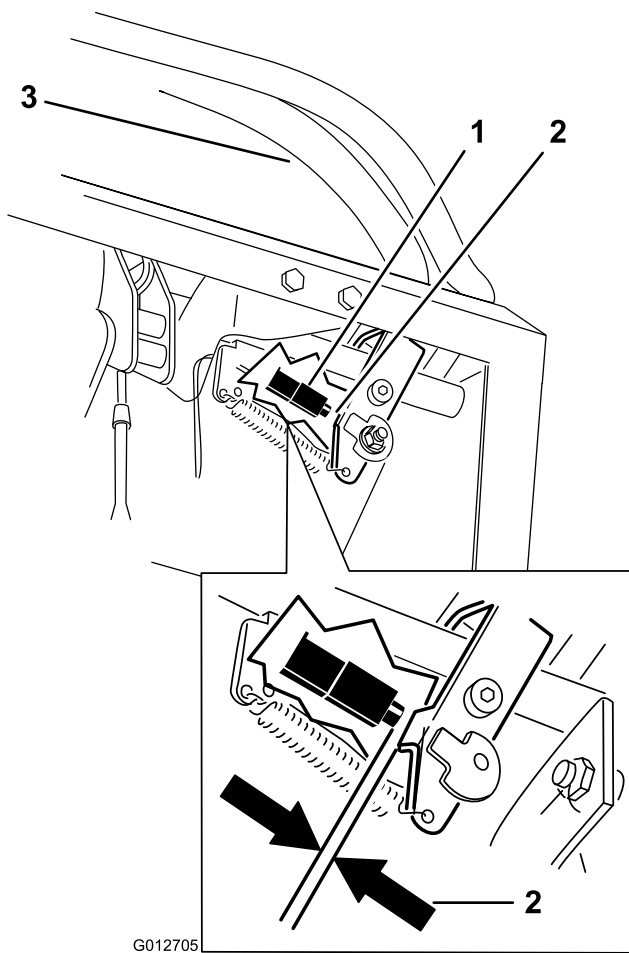

**Figure 67**
11. If needed, loosen the screws holding the switch and adjust the switch (Figure 67 and Figure 68).
7. Loosen the nut holding the cam (Figure 67).